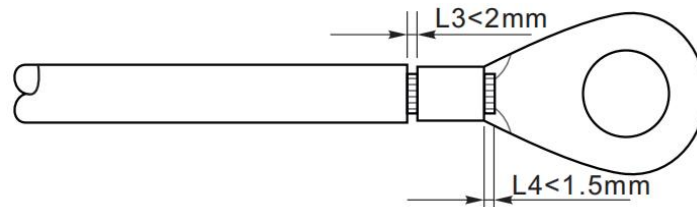

Figure 5-3 Grounding connection instruction (2)
Step 2: Insert the exposed core wires into the OT terminal and crimp them by using a crimping tool, as shown as figure 5.3. Recommend using OT terminal: OT M6, Cable: ≥6mm².